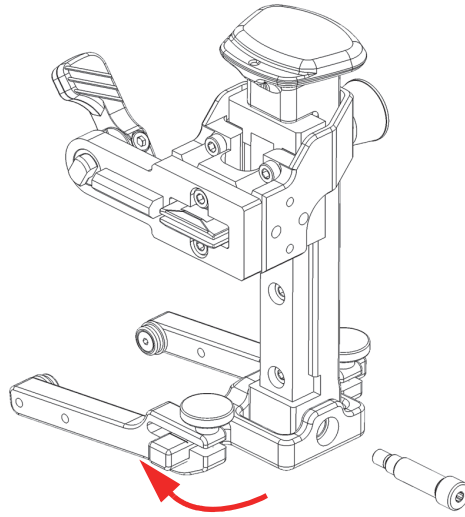

Figure 2-24 Flipping of the yoke pivoting beam
6. Rotate the yoke pivoting beam 180 degrees and slide it back into the SLA rail (Figure 2-24 on page 54).